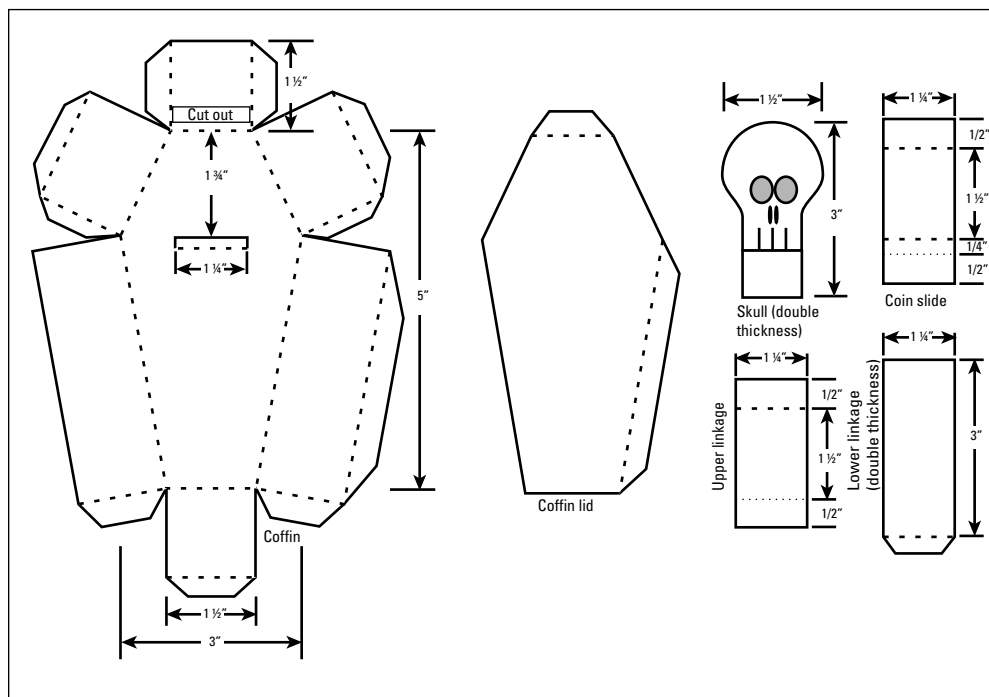

Figure 12-4:
1. Mark, score, and cut out the parts from the template (see Figure 12-4).